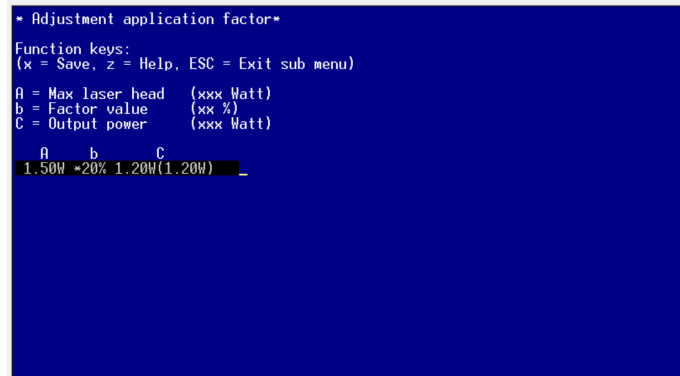

Figure 56: Laser power
- press <l> to enter Application factor (see Figure 56: Laser power)